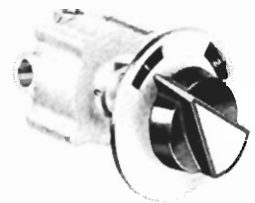

**FIG. 25 PRESSURE ELECTRIC SWITCHES**
*Pressure-Electric Switches*, Fig. 25, are actuated by air pressure and open or close an electric circuit. Starting or stopping a refrigeration compressor, pump, fan, etc., are typical applications.